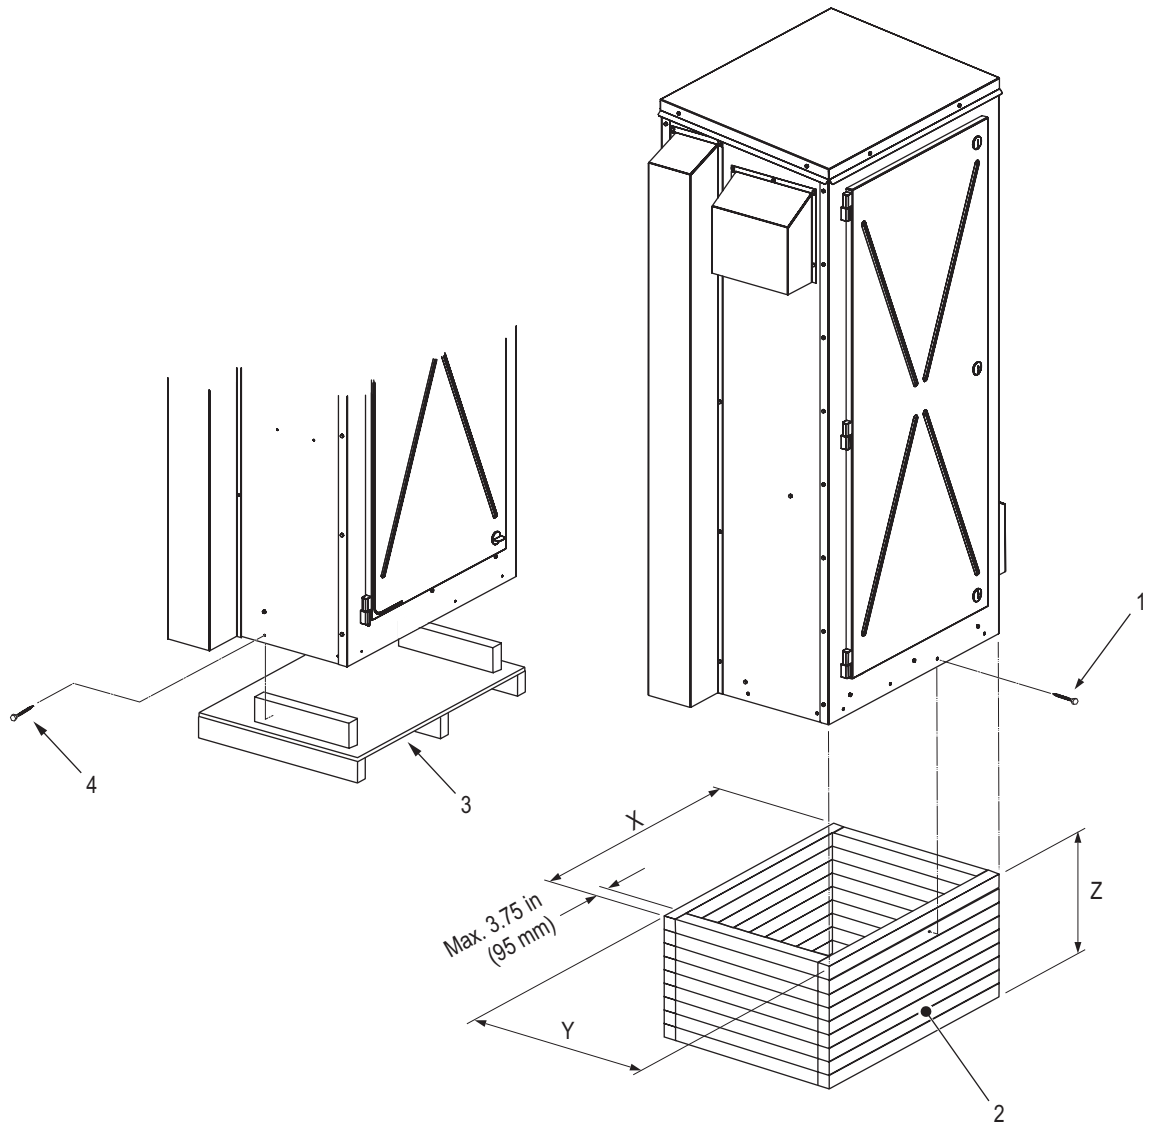

Figure 11: Rooftop Curb Mounting
3. Construct the curb to the dimension shown in Figure 11 on page 31 and Table 6. Make sure that the curb is capable of supporting the full operating weight of the unit – refer to Table 9 on page 59.